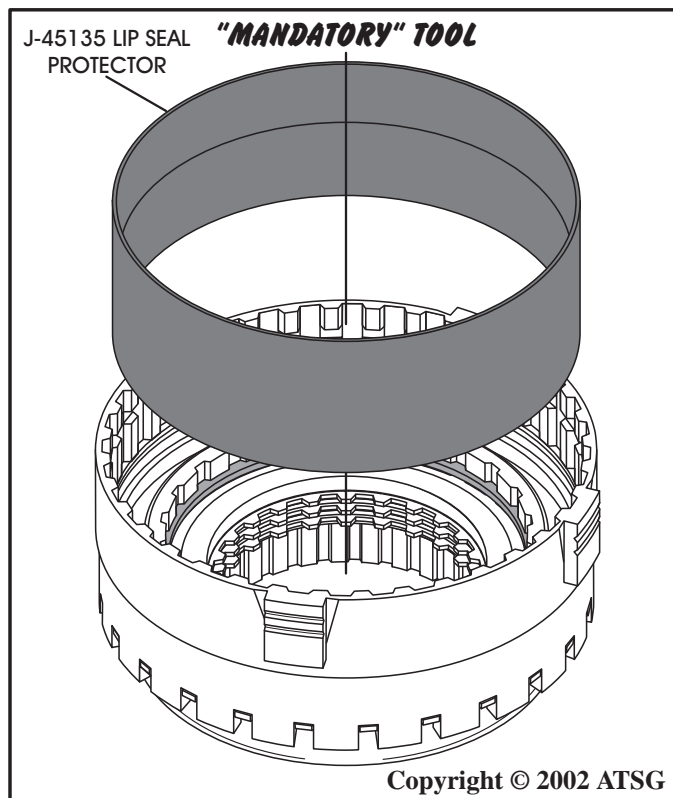

Figure 121
14. Install J-45135 lip seal protector, as shown in Figure 121 to install overdrive clutch piston.